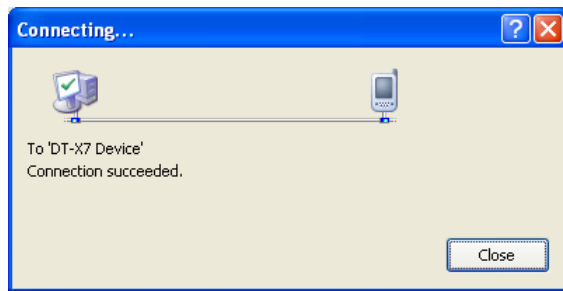

Figure 5.34
9. Choose **DT-X7 Device** in the list of **Devices:** and click **Connect** button. The screen in Figure 5.34 if appear indicates the success of connection establishment.